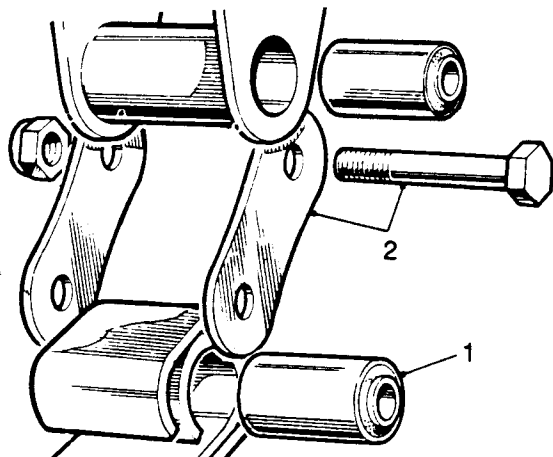

Fig I5.2
- (4) Refer to Fig I5.2. Remove the fixings and withdraw the shackle plates (2) from the chassis frame.
- (5) Press out the bushes (1) from each end of the spring. It is recommended that special tool MF109 is used for this operation.